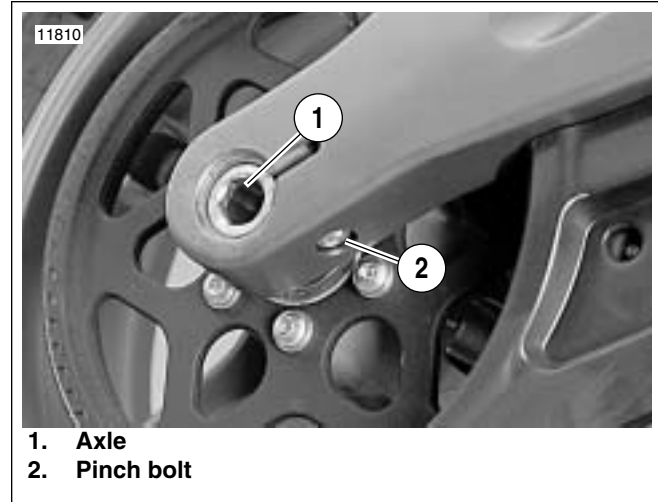
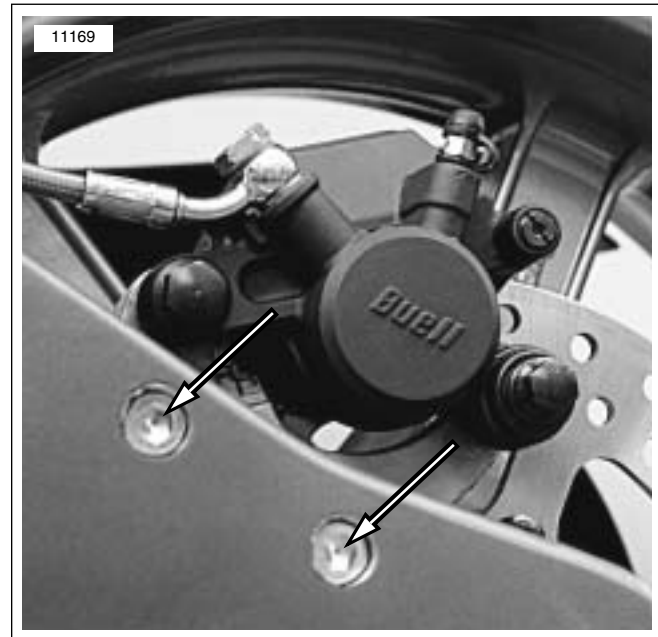

Figure 2-26. Rear Wheel Mounting, Right Side
Figure 2-27. Rear Brake Caliper Carrier Fasteners
7. See Figure 2-26. Tighten rear axle (1) to 23-27 ft-lbs (31.2-36.6 Nm), back off two full turns and then retighten to 48-52 ft-lbs (65.1-70.5 Nm).
8. Tighten pinch fastener (2) on right side of swingarm to 40-45 ft-lbs (54-61 Nm).
9. See Figure 2-27. Install caliper carrier and tighten fastener to 24-26 ft-lbs (32-35 Nm).